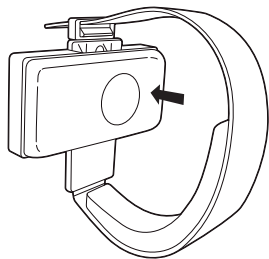

Figure 1a
- If the adaptor is used (default approach), align the device according to these markers [See Figure 1a]: